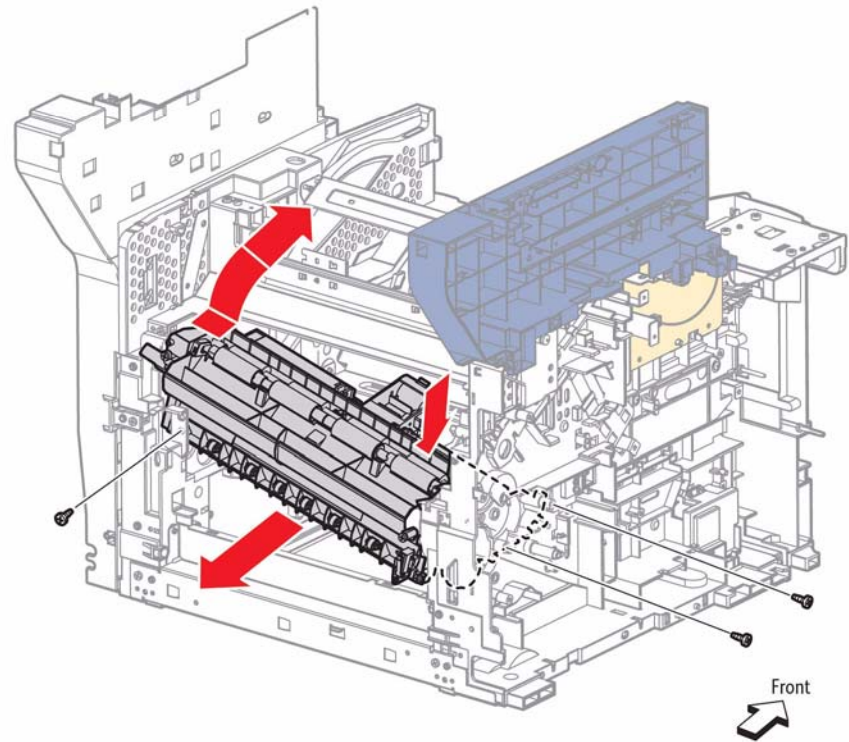

Figure 5 Remove the Transport Assembly
20. Refer to Figure 5 to locate and remove 3 screws (silver, tapping, 8mm), then rotate the Transport Assembly from the left CW into the cavity of the machine to clear gears on the right side of the assembly. Next, lift the Transport Assembly towards the front to remove.